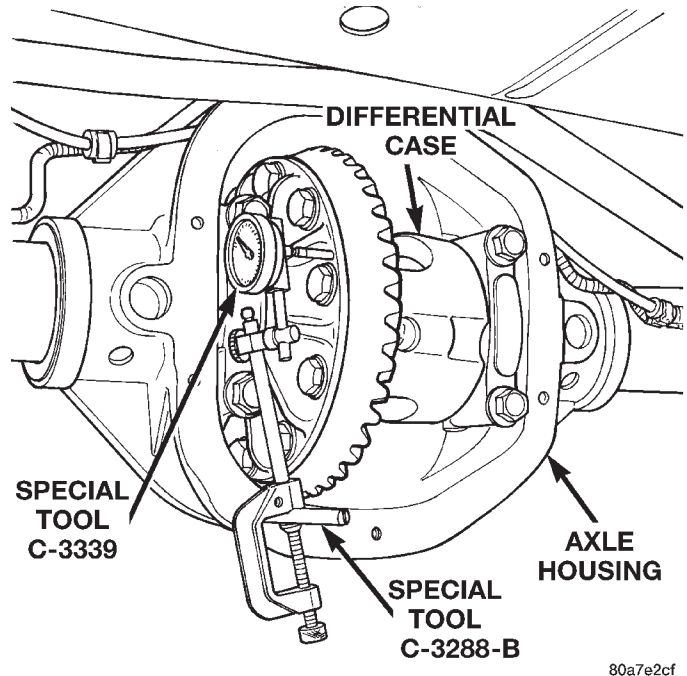

Fig. 54 Differential Side play Measurement
(8) Thread guide stud C-3288-B into rear cover bolt hole below ring gear (Fig. 54).
(9) Attach a dial indicator C-3339 to guide stud. Position the dial indicator plunger on a flat surface between the ring gear bolt heads (Fig. 54).
(20) Position the dial indicator plunger on a flat surface between the ring gear bolt heads (Fig. 54).